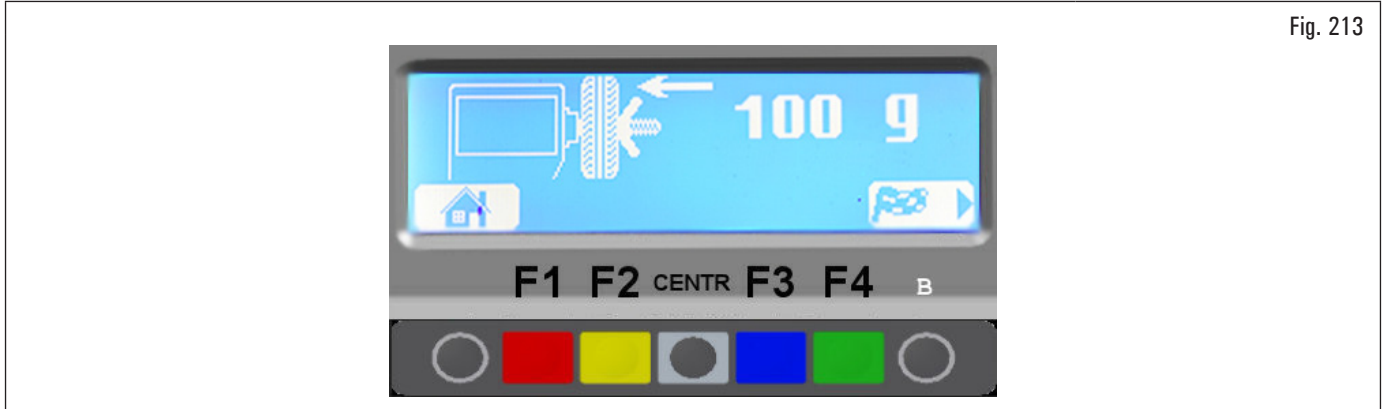

Fig. 212
- as shown in Fig. 212, press the "F4 key" to perform a wheel spin without adding weights.